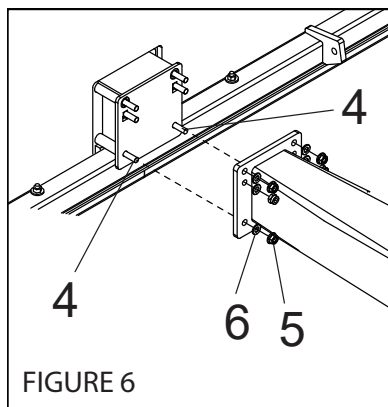

FIGURE 6
- A. Attach backboard frame to Main Extension arm using two 3/8" x 1.5" Hex Bolts (4), two 3/8" flat washers (6) and two 3/8" lock nuts (5) according to Figure 6.